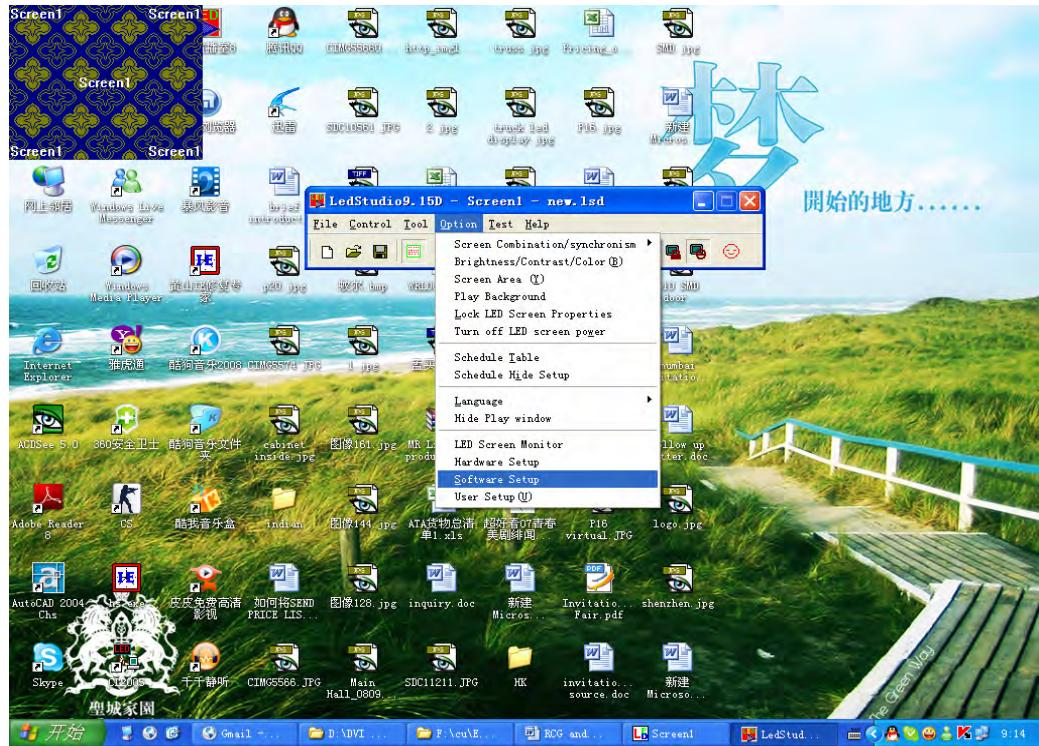

Figure 2
5.go to software setup, as shown in Figure 2